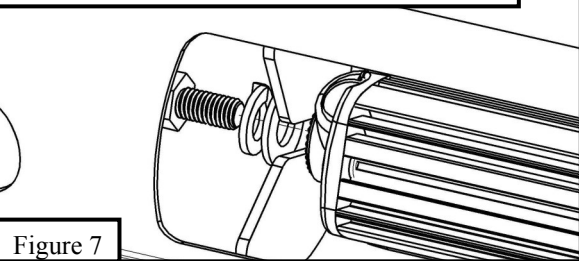

Figure 7
13. **For part number 32-1965L:** Refer to **Page 5** for wiring instructions. Loosen M8 hardware to adjust the LED light in bull bar or to remove it in order to replace it. See **Figure 7** for location of M8 hardware.